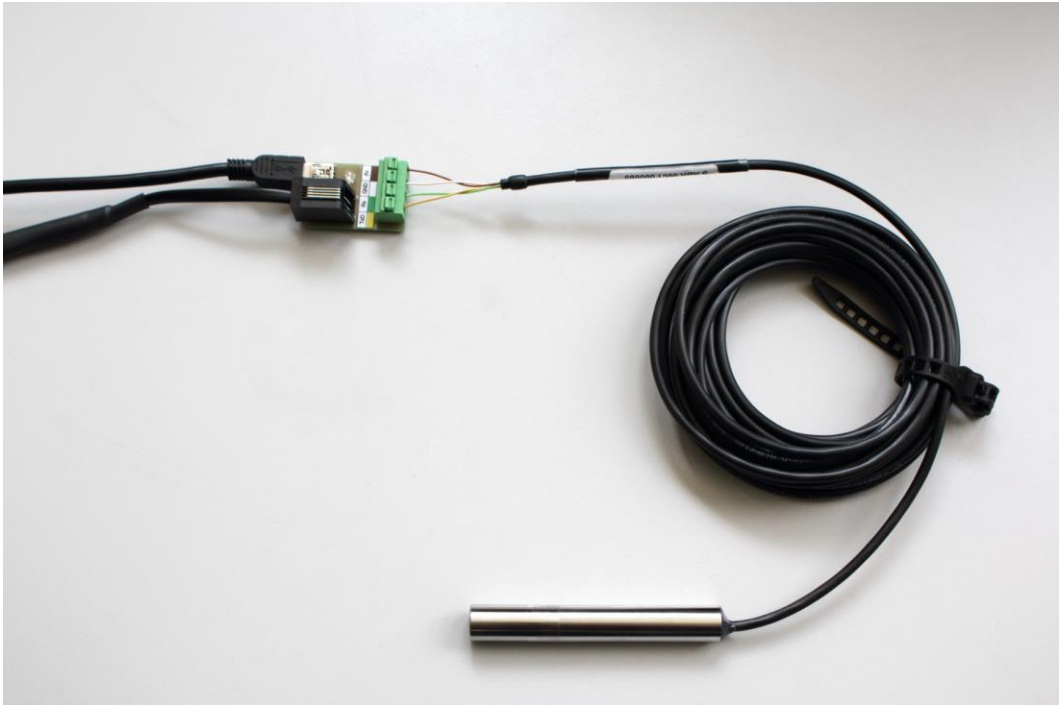
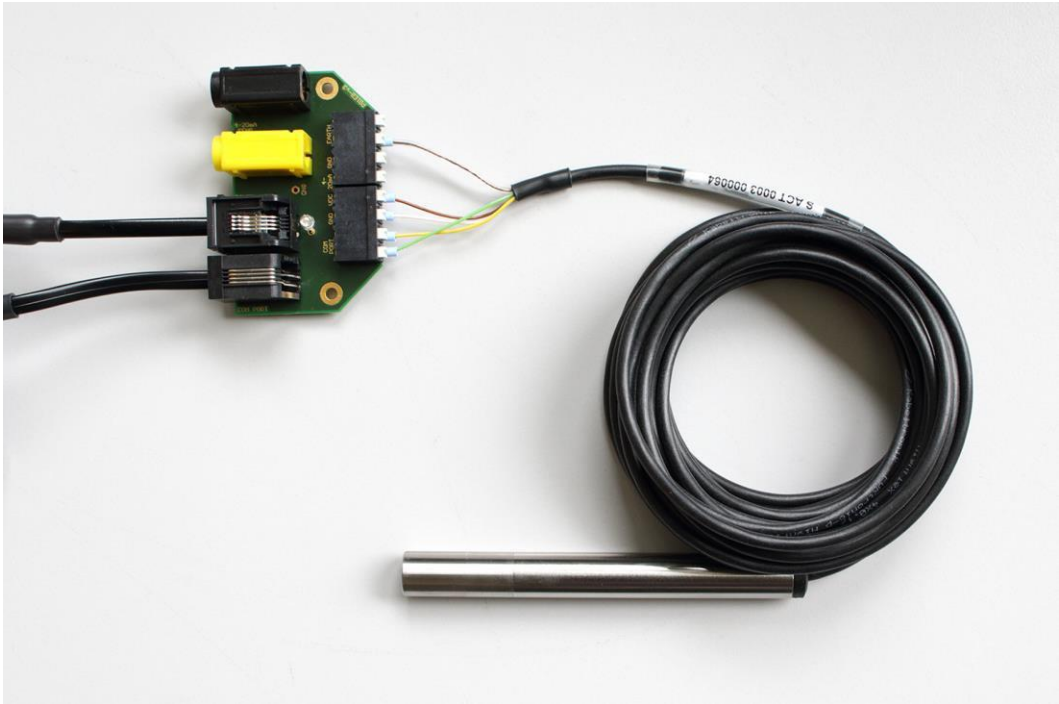
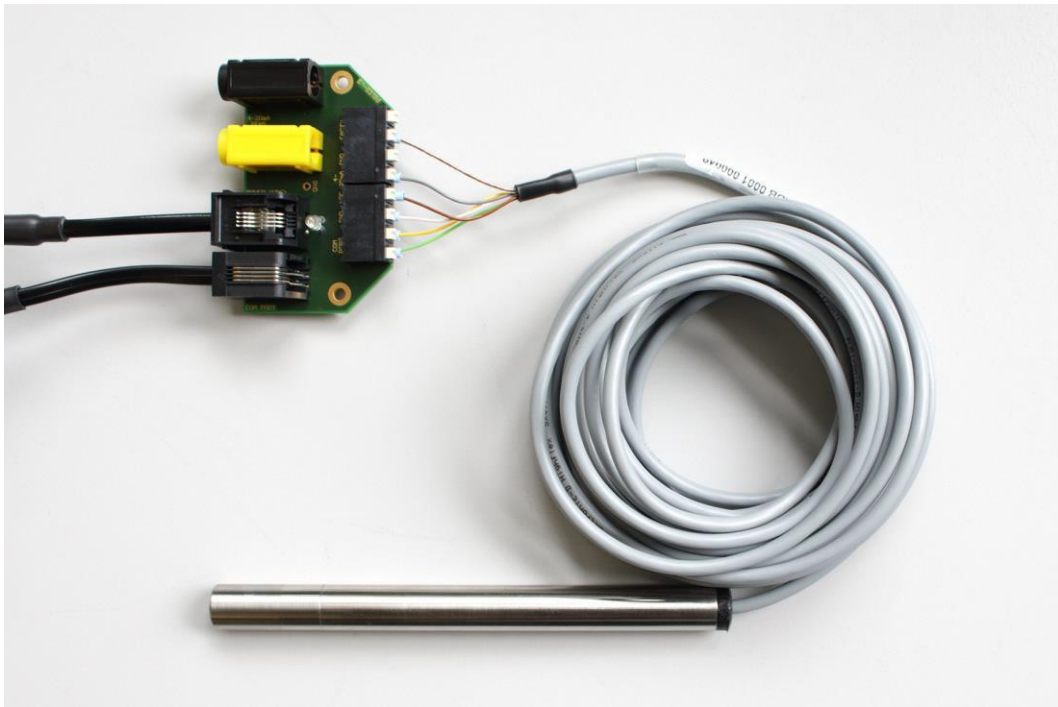

Fig. 20 OXYnorWR-RS232 cable connected to the terminal block of the Adapter OXYnorRS232 v1
Fig. 21 OXYnorWR-RS485 cable connected to the terminal block of the CB-PGx-RS485-v1
Fig. 22 OXYnorWR-RS485-4-20mA cable connected to the terminal block of the CB-PGx-RS485-v1
1. Connect the OXYnor cable with the open ends according to the Pin description (chapter 4) to the terminal block. (See also Fig. 20, Fig. 21, and Fig. 22.)